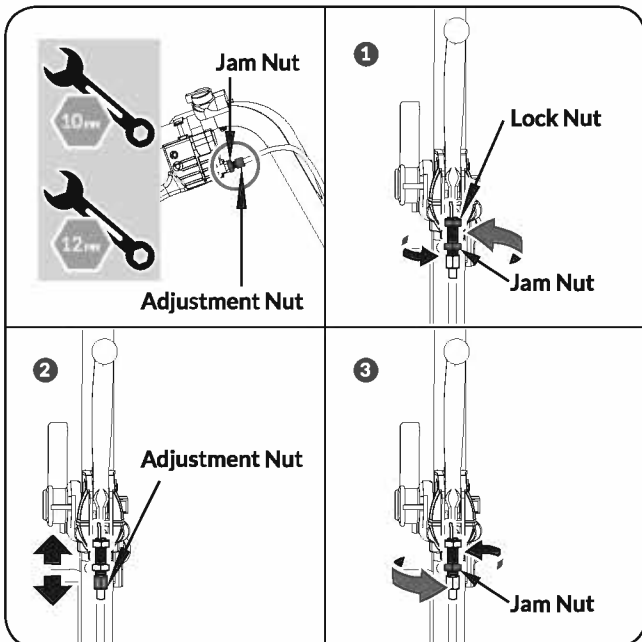

**Figure 5a**
1. Loosen the jam nut by turning it counter clockwise with 10mm wrench. (see **Figure 5a, Illustration 1**)
2. Tighten or loosen the cable by turning the cable adjustment nut clockwise or counter clockwise with 10mm wrench until you have reached your required tightness. (see **Figure 5a, Illustration 2**)
3. Once tightness is set, return the jam nut against the handle to hold the cable in place. (see **Figure 5a, Illustration 3**)